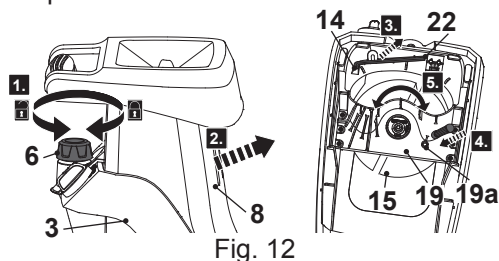

Fig. 12
**WARNING!** ! Always use original spare parts for replacement. The cutting blade must be replaced by an identification no. ref. GS01RS.00.04. Do not attach any other type of cutting blade! The replacement of the cutting blade (16) should be done by a qualified specialist! Rework or sharpening blades is not recommended unless it is done by a repair service or a similarly qualified specialist!
1. Keep the cutting blade (16) clean and free of debris. Remove clippings from the discharge chute (20).
2. Check all fasteners, such as nuts and bolts, periodically for tightness before operation. After prolonged use, the cutting blade (16) will become worn and lose some of the original shape. The cutting efficiency will be reduced and the cutting blade (16) should be replaced.
3. Keep the cutting blade (16) sharp to ensure a good cutting performance. Replace a worn or damaged cutting blade with a new one of the same type or have it sharpened by a qualified specialist.
4. Loosen the locking knob (6) anti-clockwise (Fig. 12, step 1) and open the cover (8).
5. Lift the cover (8) from the main unit (3) to remove it (Fig. 12, step 2).
6. Take off the hex key (22) from the hex key holder (14) (Fig. 12, step 3).
7. Insert a suitable tool (e. g. screwdriver) through the location hole (19a) of the blade guard (19) (Fig. 12, step 4).
8. Rotate the blade plate (15) carefully (Fig. 12, step 5) until the tool goes through with the location hole (15a) on the blade plate (15). Ensure the spindle (18) is securely locked in place.